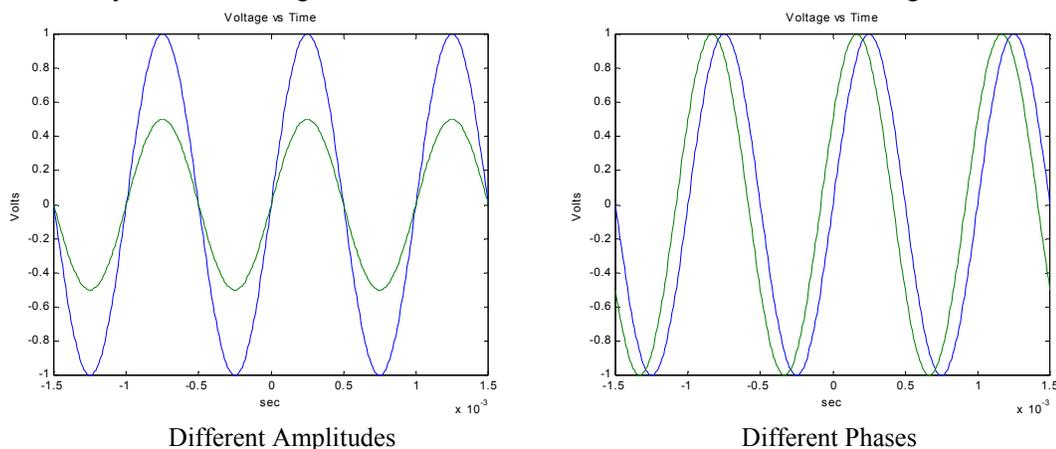

Figure D-3.
*Two channel scopes:* A dual-beam oscilloscope provides for amplification and display of two signals at the same time, thereby permitting direct comparison of the signals on the CRT screen. It is a very good idea to always use both inputs, so that you can display both the signal into and out of the device you are studying. It is common to put the input signal (coming directly from the source device) on one channel and the output signal (a signal you want to observe in your circuit) on the other channel. This way you can observe what your circuit does to the input by comparing the input signal to the signal generated by the circuit. When we compare two signals we generally look at two things. The first is the change in amplitude between the input and the output. You observed this when you built the voltage divider in part B. The output can also be shifted in phase relative to the input. This means that two sinusoids are not synchronized along the time axis. These two conditions are illustrated in Figure D-3.
- You should see two nearly identical sine waves once you hook up both function generators—one slightly out of phase with the other. Remember that the sine wave is defined by three parameters – amplitude, frequency and phase. Check to see that the voltage scale for both channels is the same. (Use the Volts/Div knob to adjust this if needed.) If the amplitudes are not the same, the sine waves will not be the same amplitude. If the phases are not the same, the sine waves will not line up horizontally. If the frequencies are not the same, the wave the oscilloscope is triggered on will be stationary, while the other wave will move (slowly we hope) to the left or right. Figure D-3 shows signals that vary in amplitude and frequency.